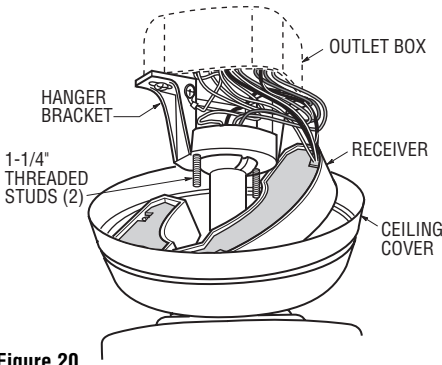

Figure 20
- 20. Insert the connected ends of the wires up through the open side of the hanger bracket and into the outlet box as shown in Figure 20.
- 21. Screw two 1-1/4" threaded studs (supplied with the ceiling fan) into the tapped holes in the hanger bracket (Figure 20).